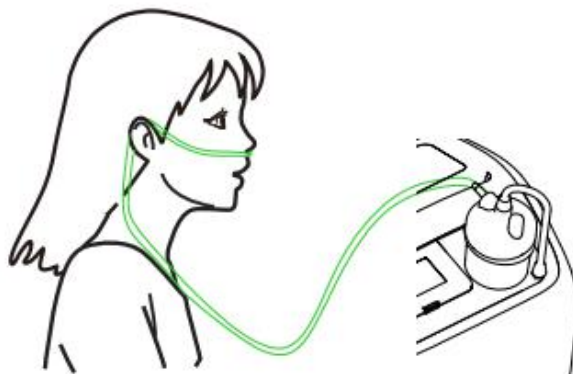

Figure 10
- d. Attach the oxygen tubing directly to the humidifier bottle outlet fitting. (Figure 10)